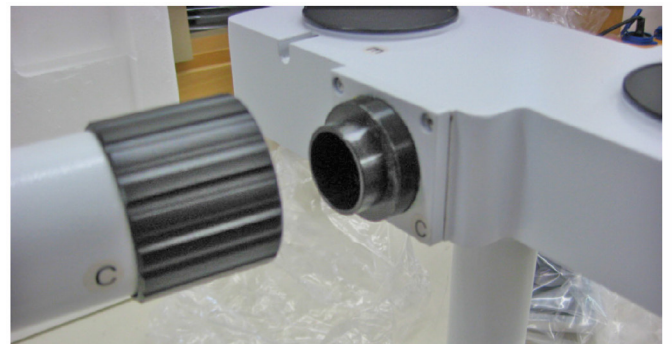

Fig. 8
- 2.9** Insert the optical head (always matching the reference letters) and screw the black fixing ring. (Fig. 8).